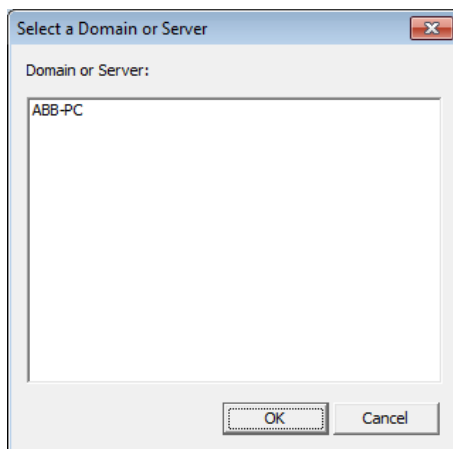

Figure 54. Select a Domain or Server Dialog Box
- i. A Select a Domain or Server dialog box similar to the one shown in Figure 54 appears. There will be one or more possible selections. Select the correct Domain or Server and click **OK** to return to the Browse for a User Account dialog box.